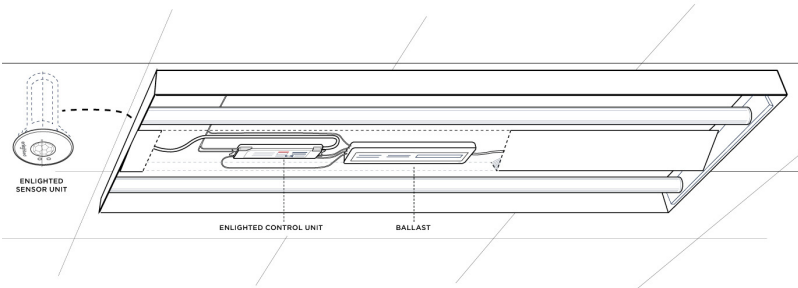

Figure 1: Fixture Combo
2.	Ensure the RJ12 data cable is installed and connected to the Enlighted Control Unit mounted in the ballast cavity of the fixture or mounted in a UL-approved enclosure. (See Figure 1)